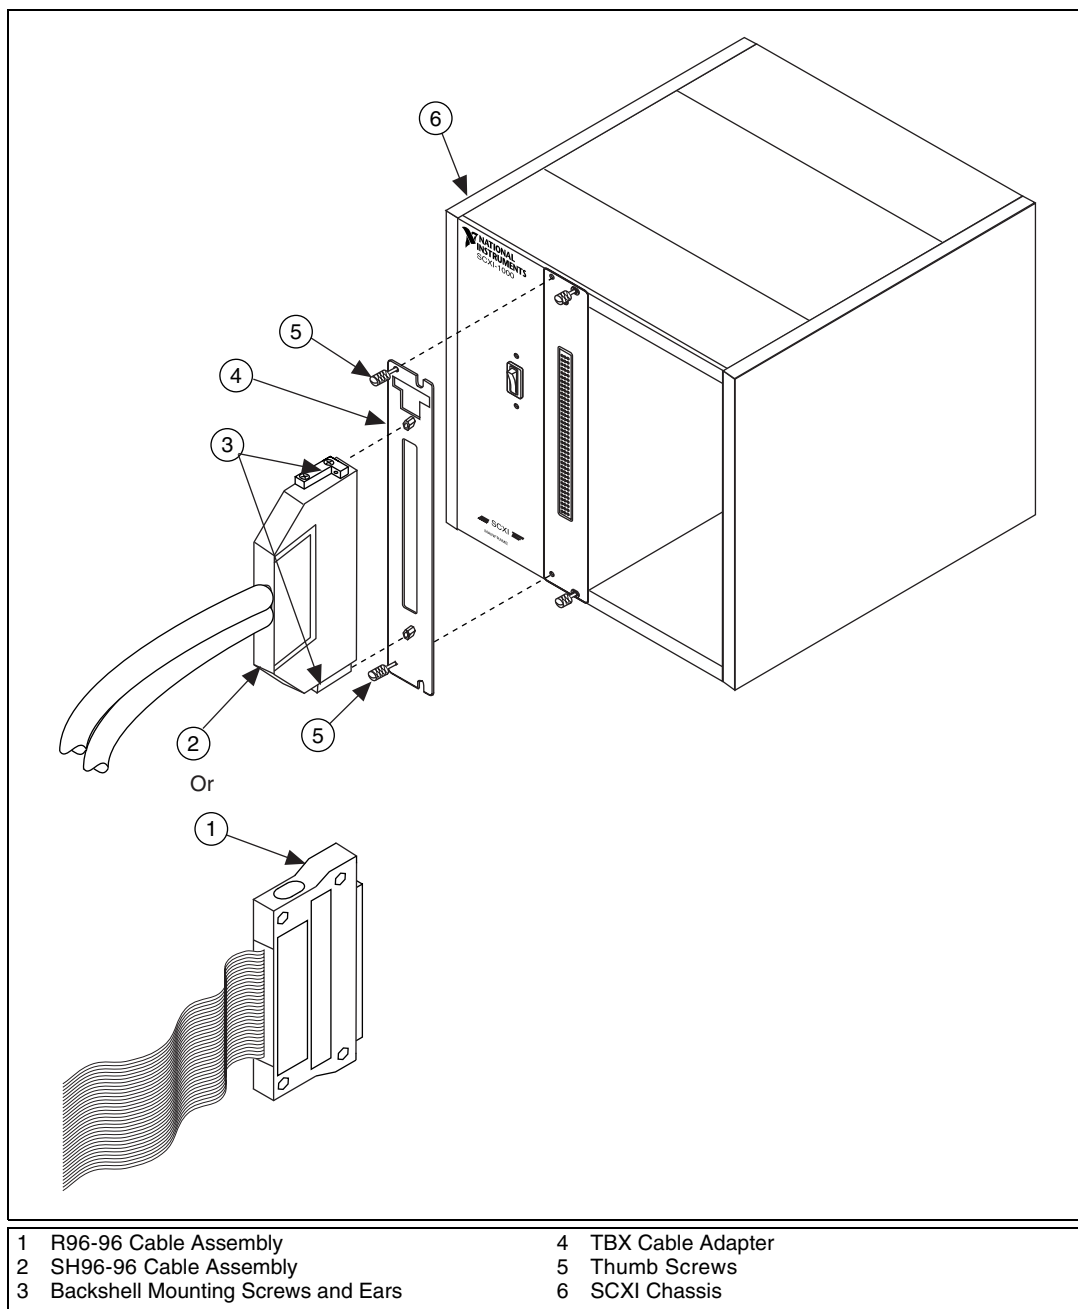

Figure 2. Connecting the SH96-96 or R96-96 Cable to the SCXI Module
Perform the following steps to mount the SH96-96 or R96-96 cable assembly and to connect the TBX-96 to your SCXI module. Refer to Figures 2 through 4 as needed.
4. If you are using an SH96-96, verify that the two backshell mounting ears on each end of the cable assembly are in the position shown in Figure 2 and 3. If the backshell mounting ears are not in the position shown, remove the backshell mounting ears and install them in the position shown. If you are using an R96-96, the mounting screws are built into the backshell.